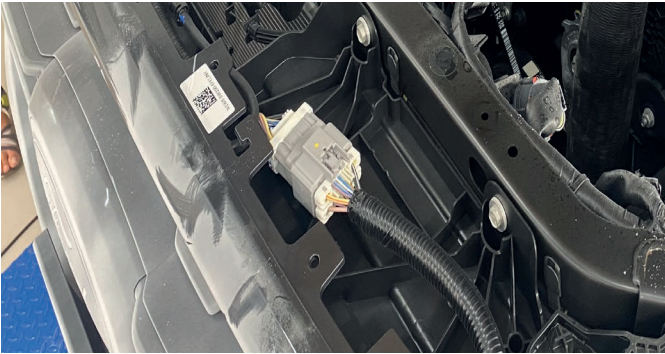

Fig.75
70. Connect the factory wiring plug (fig.75).